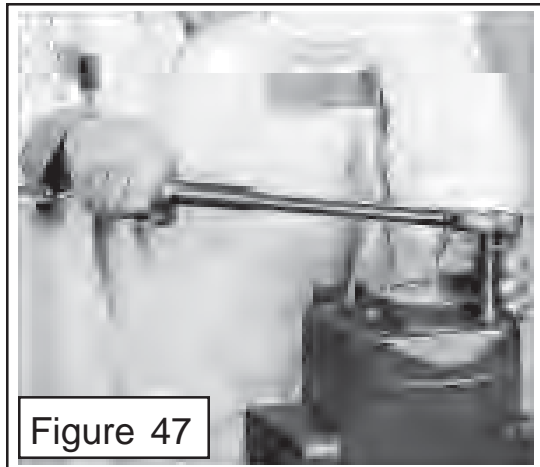

Figure 47
24. Thread the bolts & lockwashers in through shaft end cover and gear housing until threads are started into bearing housing. Alternately tighten the bolts in increments that will make the three components pull down evenly (figure 47). Torque the bolts in increments until the bolts (qty 4) are torqued to 200 ft. lbs.